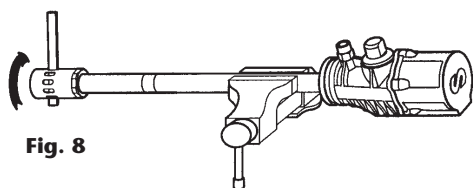

Fig. 8
2. Unscrew the intake filter tube (42) from the intake filter head (39) (fig. 8).